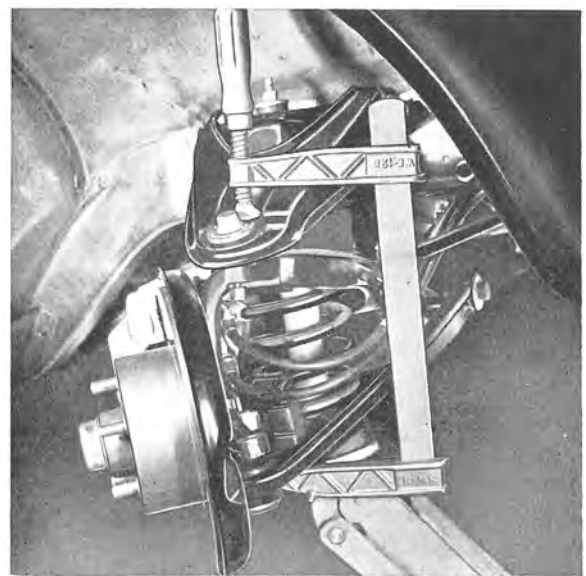

Fig. 6-24. Upper ball joint securely held by vice
position with a screw vice, see Fig. 6-24. Fit the steering onto the steering arm.
3. Turn down the control arm and tighten the nuts for the control arm shaft. Tighten the ball joint against the steering knuckle. If the pin rotates, hold it firmly with a screw vice, see Fig. 6-24.